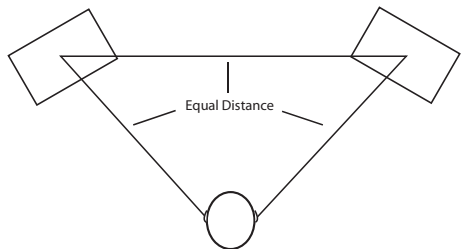

Figure 2.
*When positioning the monitors you'll want to set up what is commonly referred to as the "mix triangle". In this ideal configuration, the space between the left and right monitor is equal as is the distance from the listener to each monitor, forming an equilateral triangle. (Figure 2.)*